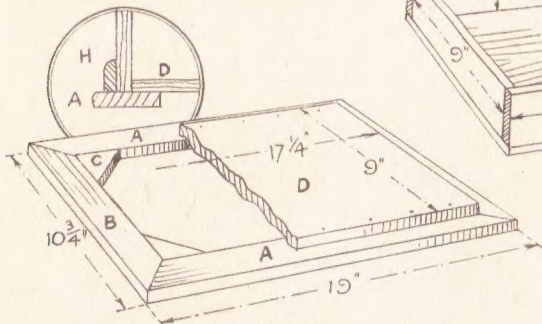
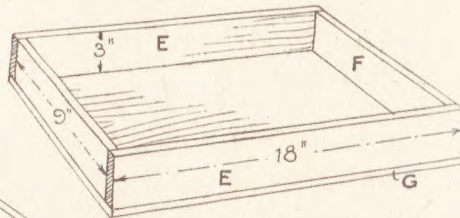
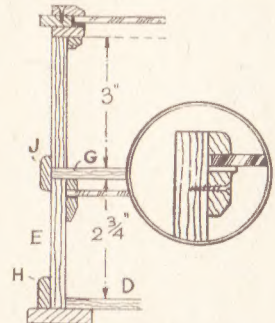

Fig. 2—Details of floor and base construction
Fig. 3—Framework of the case
Fig. 4—Section at end
The base of the lower case should first be set out and made, and in Fig. 2 this is shown with also a section of the floor screwed to it. Cut two pieces as (A) and two pieces as (B) all to length shown, by $1\frac{1}{2}$ ins. wide by $\frac{3}{4}$ in. thick. Cut the mitres to 40 degrees on all the ends using a set
As both cases are identical in size, four rails 18 ins. by 3 ins., and four rails 9 ins. by 3 ins. and all $\frac{3}{4}$ in. thick may be cut and framed together as shown in Fig. 3. This illustration shows the upper case with floor (G) attached and flush with the sides and ends all round. The lower case, however, will not of course have a floor this being already supplied as (D) in Fig. 2.
To strengthen the base, as well as to add to the appearance, a member as (H) in the enlarged diagram in Fig. 2 is added all round and mitred at the corners. The four pieces are $\frac{1}{2}$ in. by $\frac{1}{4}$ in. in section and are glued in place. This member is seen again in the cross section through one side at Fig. 4.
the enlarged view in Fig. 4. On these fillets will be glued strips of washleather or felt to form a bedding for the sheet of glass, the size of which should be taken direct from the made-up case.
form of an open frame. Each side of it is made up of three strips of $\frac{1}{4}$ in. thick wood glued or screwed together. A detailed corner view of the frame is shown in Fig. 4, with an enlarged sectional detail in the circle.
To the inside edges of the glass framing, fillets $\frac{3}{4}$ in. by $\frac{1}{4}$ in. with chamfered edges will be attached to hold the frame properly and rigidly in place, see the enlarged detail Fig. 4. Glass of about 21 oz. will be used for both top and lower case, the top glass again being bedded on either felt or washleather as shown.
This completes the making of the show cases, which can be lined and finished as previously suggested. To hold the cases together a fillet strip (J) is put round at the junction as seen in Fig. 4. The strips are $\frac{3}{4}$ in. wide and $\frac{1}{4}$ in. thick and they are mitred at the angles of the top case and glued and pinned to it.